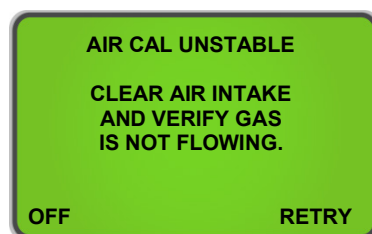

Figure 6
**NOTE:** In the unlikely event an 'Air Calibration Unstable' message is displayed as shown in (Figure 6) verify you are in a ventilate area and there is no gas flowing near the air intake. Once you have verified both parameters, press 'RETRY' to complete another calibration.